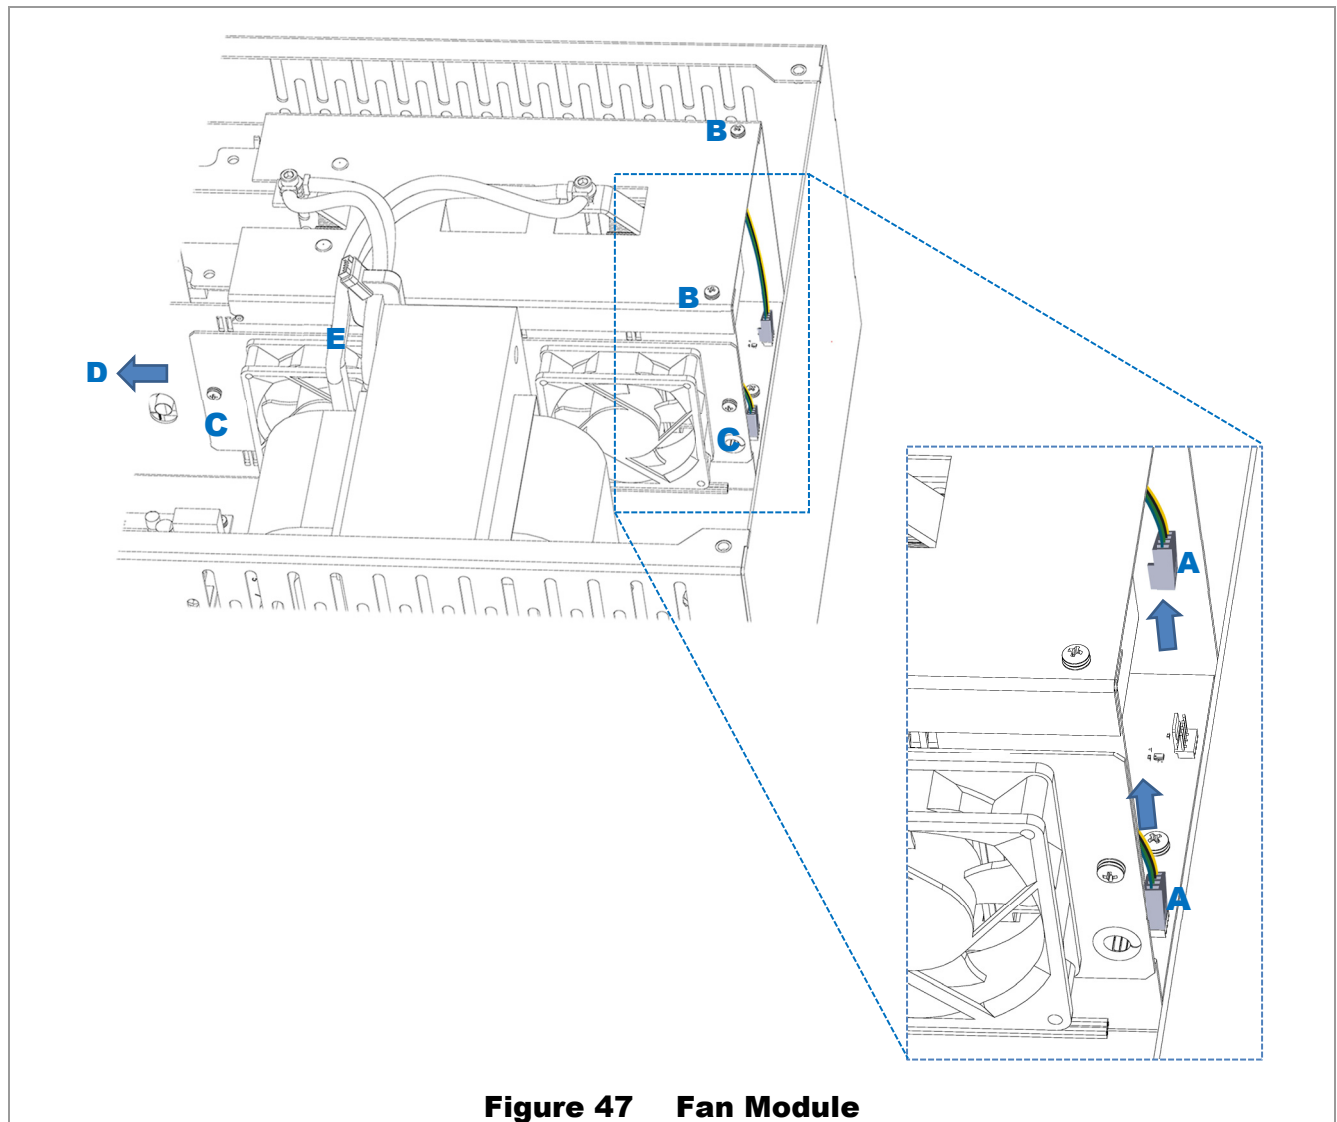
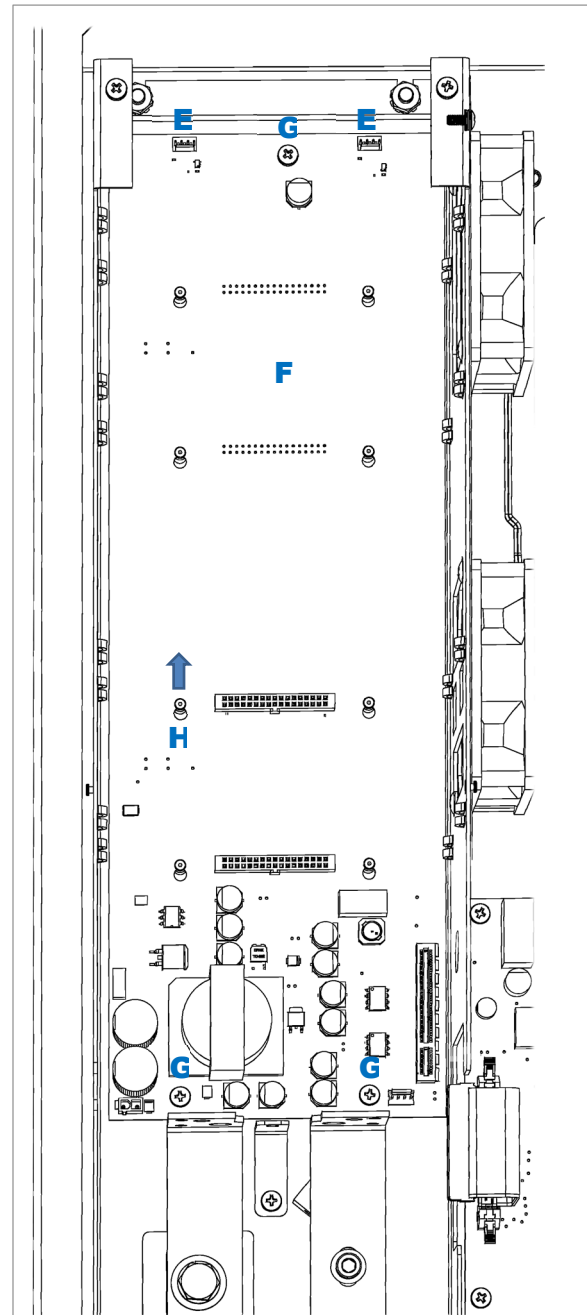

Figure 47 Fan Module
Figure 52 Carrier Board
1. Remove the two fan plugs at the top of the carrier board. See **A** in the Figure 47 inset. If necessary, loosen the power module cage cover at **B** to allow access to the plugs.
2. Using a #2 Phillips screwdriver, remove the two screws securing the fan module. See **C** in Figure 47.
3. Slide the fan module out of its slot in the direction indicated by **D** in Figure 47. Note that the module will have to slide under the transformer cables **E**, which have not been removed.
4. Replace the fan module. Perform all previous steps in reverse order. See Figure 47.
5. Remove the two fan plugs at the top of the carrier board **F**. See **E** in Figure 52. If necessary, see **A** in the Figure 47 inset.
6. Using a #2 Phillips screwdriver, remove the screws **G** at the top and bottom of the carrier board. See Figure 52.
- Replace the carrier board **I**. See Figure 52 for all items.